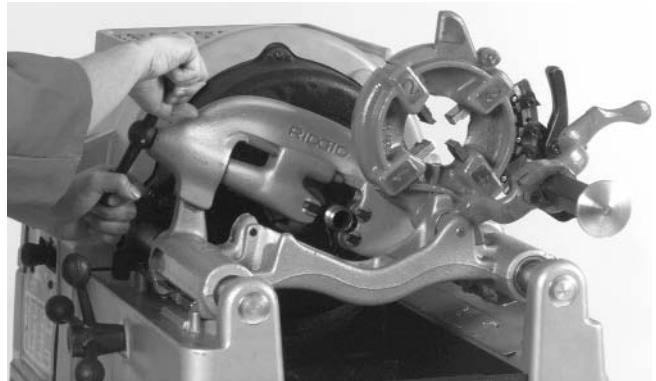

Figure 5 – Cutting Pipe with 820 Cutter
3. Tighten cutter feed screw handle on pipe keeping wheel aligned with the pipe. (Figure 5)